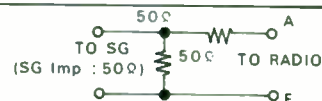

Fig. 3 Antenna Pad
- Connect the signal generator to the antenna receptacle through the antenna pad. (Fig. 3)